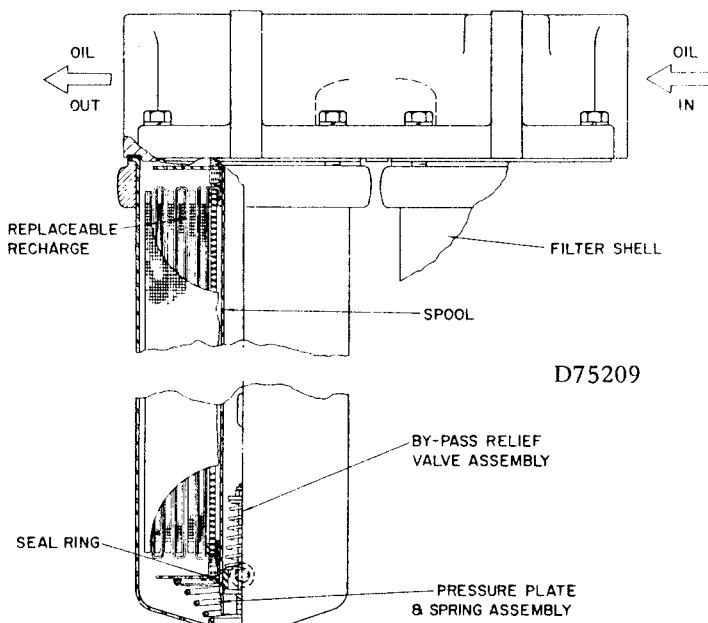

FIGURE 5-5. - COMPRESSOR OIL FILTER
**COMPRESSOR OIL FILTER** (Figure 5-5) uses two single element filters connected in parallel and is a vital part in maintaining a trouble-free compressor, since it removes dirt and abrasives from the circulated oil. The filter is a replaceable cloth bag element type and is equipped with a relief valve that opens in the event the element becomes dirty enough to block the flow of oil. *Elements must be replaced every 1000 hours, or when the pressure drop is 15 PSI.* More frequent changes improve the system's reliability and are recommended.